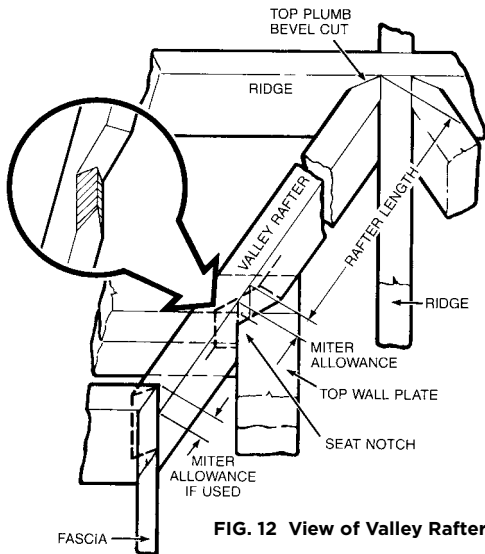
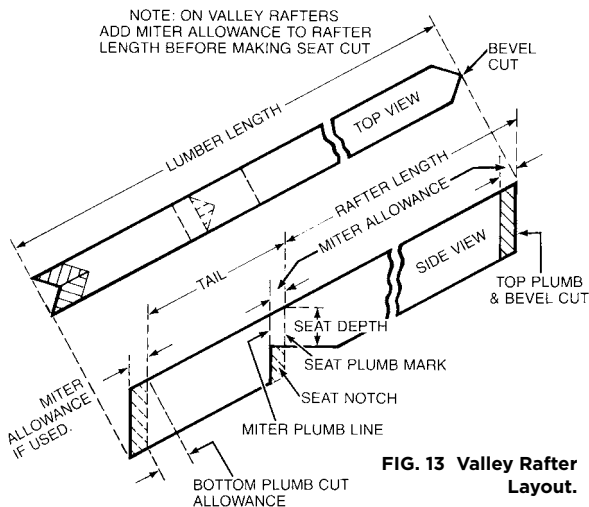

FIG. 12 View of Valley Rafter Layout.
FIG. 13 Valley Rafter Layout.
STEP 1. TOP PLUMB CUT: Using the Hip-Val scale again, make the top plumb mark in the usual way. Now measure down the top of the rafter from this mark for a miter allowance, if used (see Figures 12 and 13). Look up the allowance in the Tables under the rise and the rafter thickness that you are using (in our example: 8" rise and 1-1/2" actual rafter thickness, resulting in a 7/8" allowance). Then make two plumb marks on both sides of the rafter for the top plumb bevel cuts.
STEP 2. SEAT NOTCH: From the first top plumb mark, measure down the rafter length (in our example: 20' 3-7/8") and make the seat plumb mark (see Figure 13). Now, go down the rafter from the seat plumb mark the miter allowance distance (found in the table for your inch rise and actual rafter thickness) and make a plumb line for the miter allowance. Draw the same miter plumb line on the other side of the rafter for making the bevel cut. This mitered seat cut will allow the valley rafter to fit down over the crotch formed by the joining wall plates (see Figure 12). Next, to make the horizontal seat mark, measure down to the seat depth on the seat plumb mark (not the miter plumb line). Aligning the dashed line on our square with the seat plumb mark, draw a perpendicular line using the bottom edge of our Square to the edge of the rafter. Also extend the horizontal seat mark to the added miter allowance plumb line (see Figures 7 and 13). Double check to see that all seat notches are the same depth.
STEP 3. BOTTOM OR TAIL PLUMB CUT: Measure down the top of the valley rafter from the SEAT PLUMB MARK and mark the tail length (in our example: 2' 8-7/8"). Be sure to add the miter allowance in the measurement, if used (see Figure 13). Make the bottom plumb mark with the square in the normal manner.
STEP 4. RAFTER PATTERN CUTS: To make the top and bottom cuts, tilt the saw at 45° (see Figure 13). Also make the seat miter cuts. Now change the saw tilt to 90° for the horizontal seat cut. You may want to check for proper fit and use this rafter as a pattern for the other valley rafters.